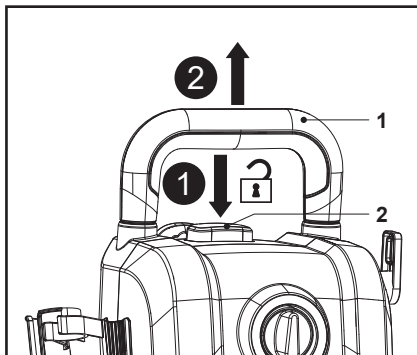

Fig. 13
1. Press and hold the handle lock button (2), then pull the transport handle (1) all the way to stop (Fig. 13).